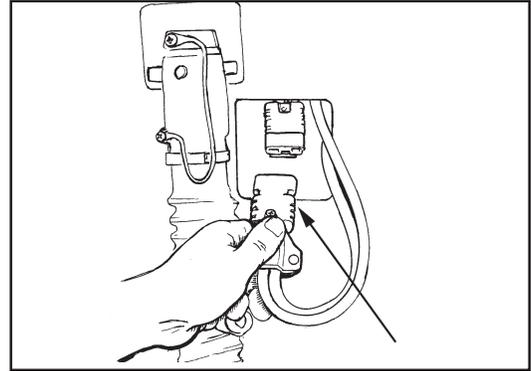

Figure 14
4. Disconnect the battery pack connector from the control housing connector. See figure 14.